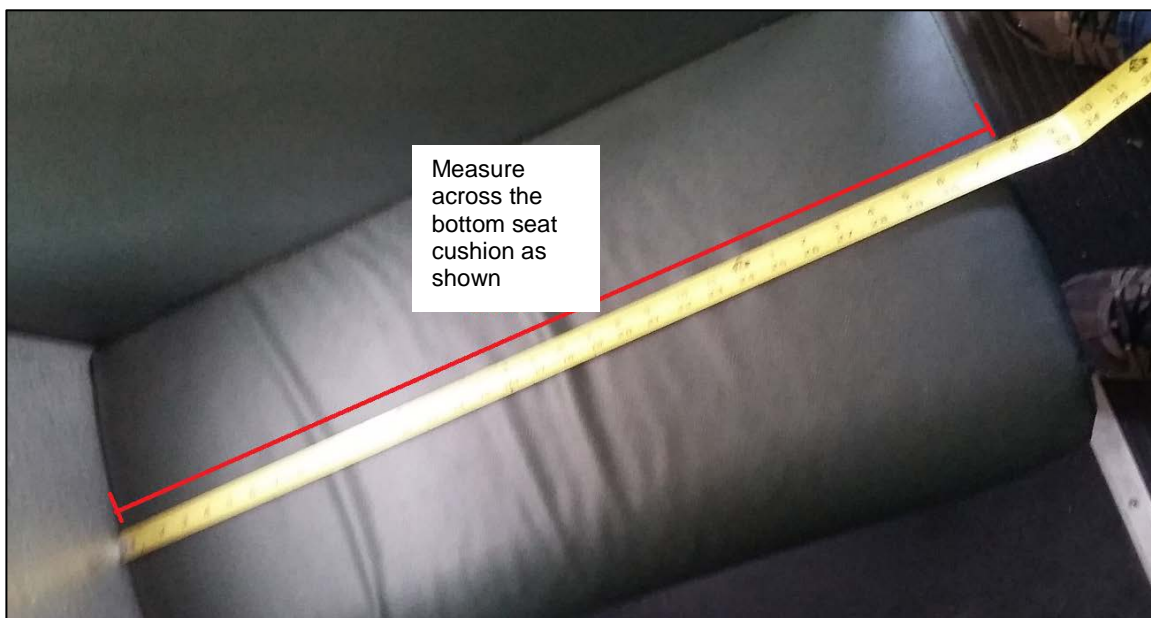

Figure 1: Measure the Seat
2. Measure the affected seats to determine the size and correct repair procedure. See **Figure 1**.